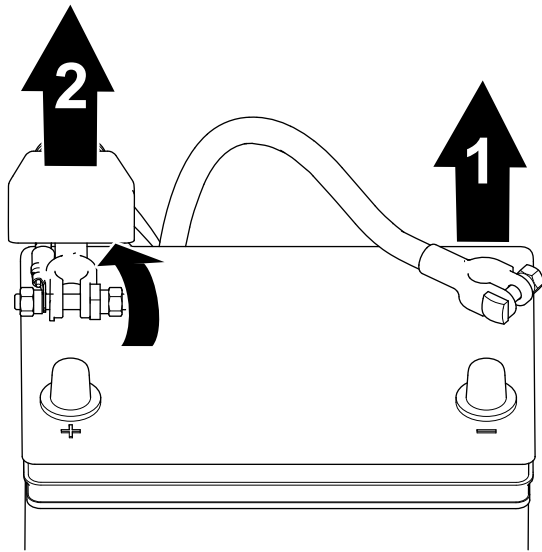

Figure 36
1. Remove the negative battery cable from the battery post (Figure 36).
2. Lift the insulator and remove the positive battery cable from the battery post (Figure 36).